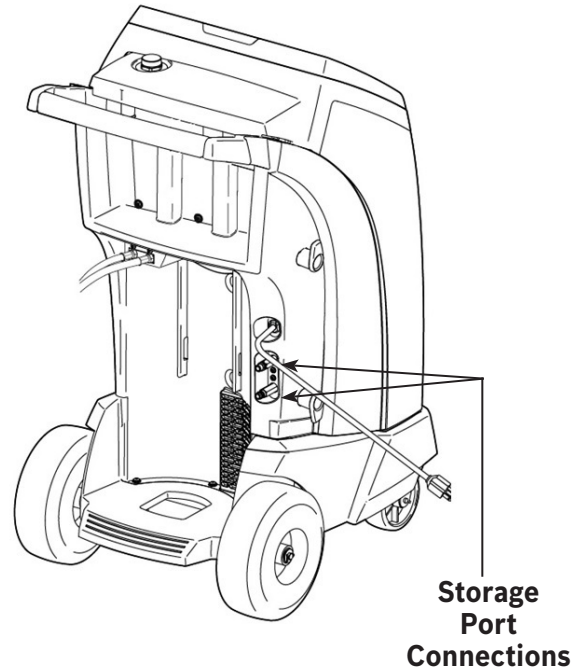

Figure 4
2. Connect the service hoses to the machine's storage port connections as shown in Figure 4.